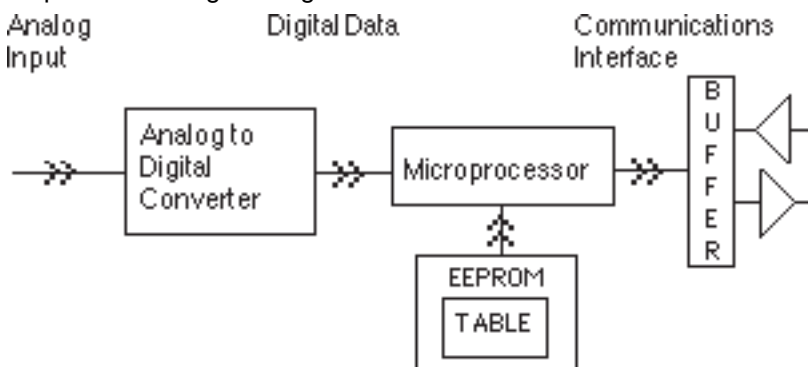

Figure 3. D2000 Series Block Diagram
Figure 3 is a simplified block diagram of the D2000, showing only the portions related to re-scaling. The  $\mu\text{P}$  reads the raw Analog-to-Digital Converter (ADC) data after every conversion. The  $\mu\text{P}$  takes the raw ADC data and looks it up in a table held in EEPROM. The table contains entries which map the raw ADC data to user-defined output data values scaled in engineering units. If an exact match is not found, the data is interpolated between the two closest table entries. The resulting data in engineering units is stored in a memory buffer where it may be read by the Read Data (RD) or New Data (ND) Commands.